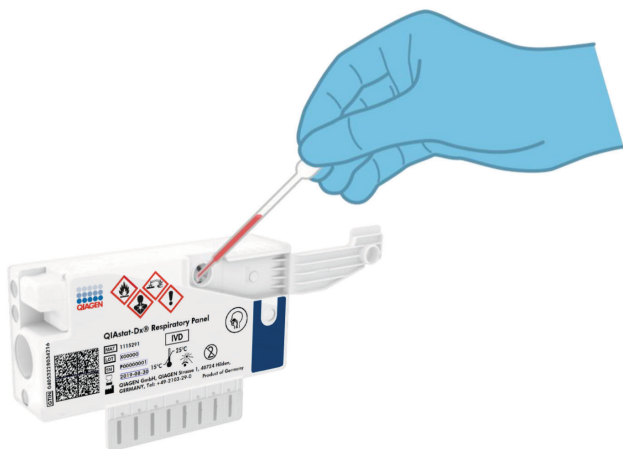

Figure 21. Transferring sample to main port of QIAstat-Dx Respiratory Panel Cartridge.
6. Carefully transfer 300 μ l of sample volume into the main port of the QIAstat-Dx Respiratory Panel Cartridge using the supplied single-use transfer pipette (Figure 21).